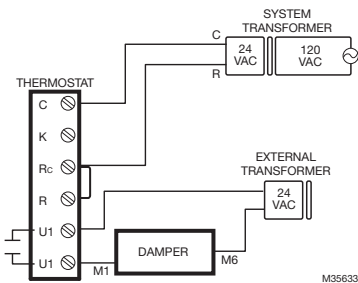

**Fig. 1. 2-Wire Operation (Red LED only).**
- For 2 wire usage, wire M1 and M6. See Fig. 1.